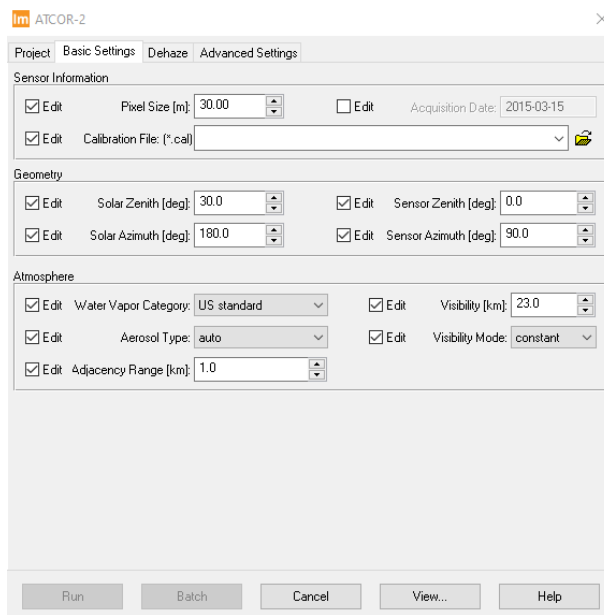

Figure 5: ATCOR-2 Basic Settings Tab.
15. Navigate from the Project Tab to the **Basic Settings Tab** (Figure 5).